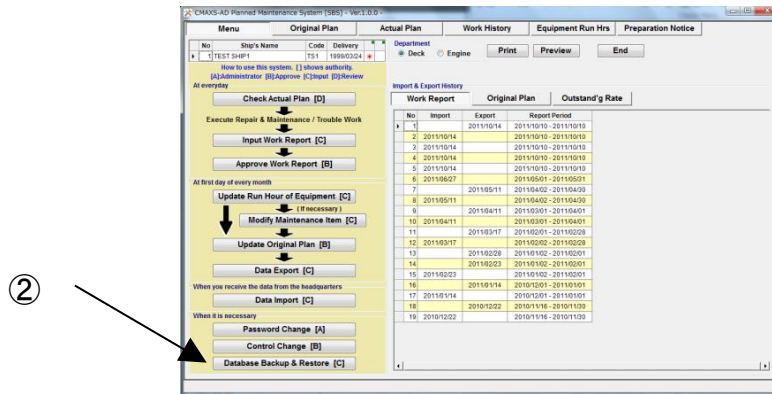

Fig.15-3 Menu Screen
(2) Select [Database Backup & Restore] button on the "Menu Screen"(Fig.15-3).
1. Select [Filter] button on the "Original Plan Screen" (Fig.15-3).